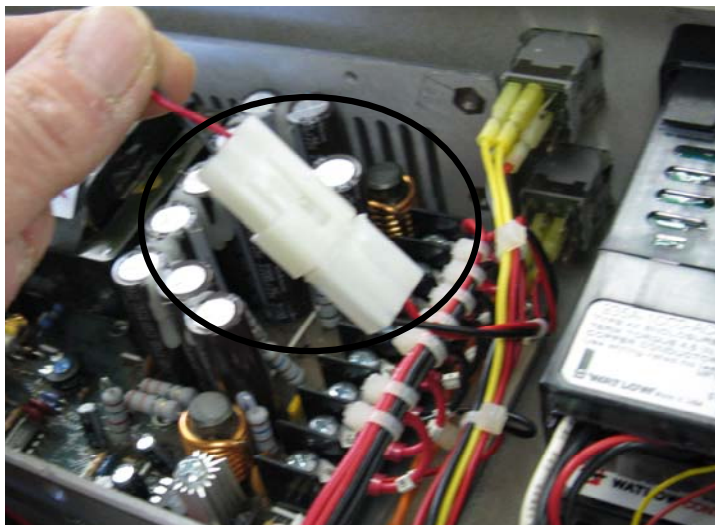

Figure 2
- 3) You will need to unplug the fan that is attached to the bottom cover, and set the cover aside. Fig. 2